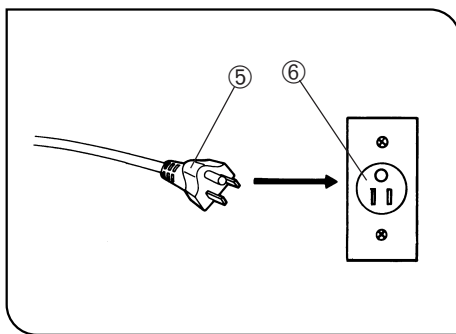

Fig. 36
3. Connect the power cord plug ⑤ to a wall outlet ⑥. (Fig. 36)